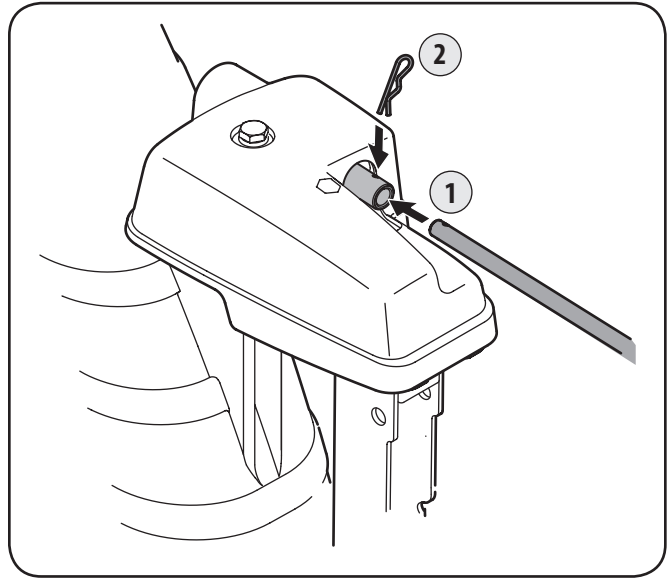

Figure 3-16
6. Insert chute directional control rod into rear of the chute control assembly. Secure the chute directional control rod to the chute control assembly with the hairpin clip removed earlier. See Figure 3-16.